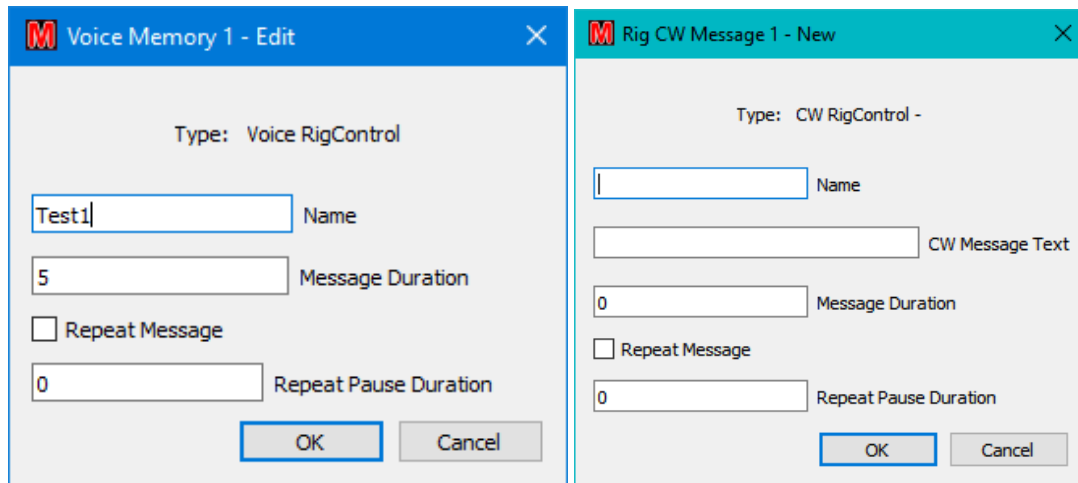

Figure 127 – Setup for RigControl connections
- **New:** Create a new user command (see Figure 127).